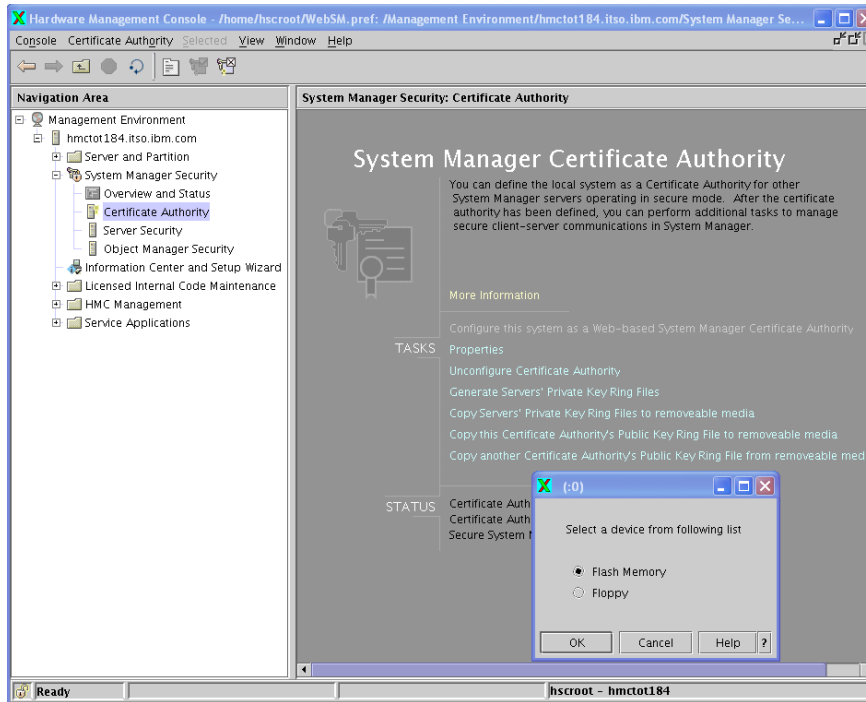

Figure 32 Save the public key ring file to removable media
- Copy the public key ring file to removable media for installing the key file on the client PC. Select **System Manager Security** → **Certificate Authority**, and in the right panel, select **Copy this Certificate Authority Public Key Ring File to removable media**. A dialog panel is displayed (see Figure 32 on page 47).